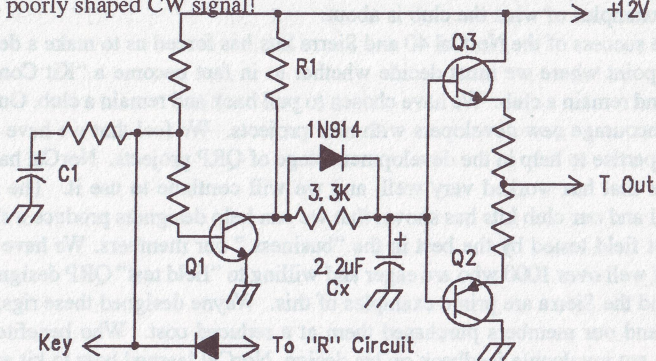

Figure 1 Modified circuit to generate transmit control signal.
4. The next step is to drill mounting holes in the control board to re-mount R1 and to mount the shaping capacitor (Cx in Figure 1). Use a No. 60 drill (0.040 in.) and carefully drill holes as follows (see Fig. 2):